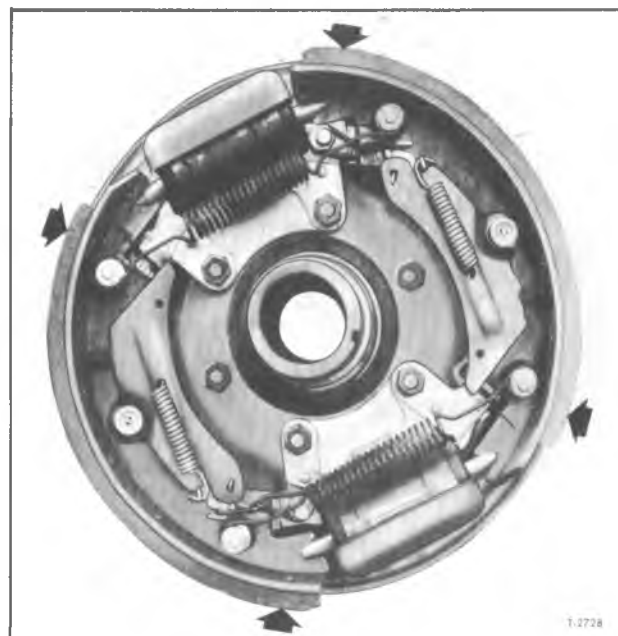

Figure 42—Measuring Points for Brake Shoe Centering
9. Check the brake shoes for being centered by measuring the distance from the lining surface to the edge of the flange plate at the points shown in figure 42. To center the shoes, tap the upper or lower end of the shoes with a plastic mallet until the distances at each end become equal.